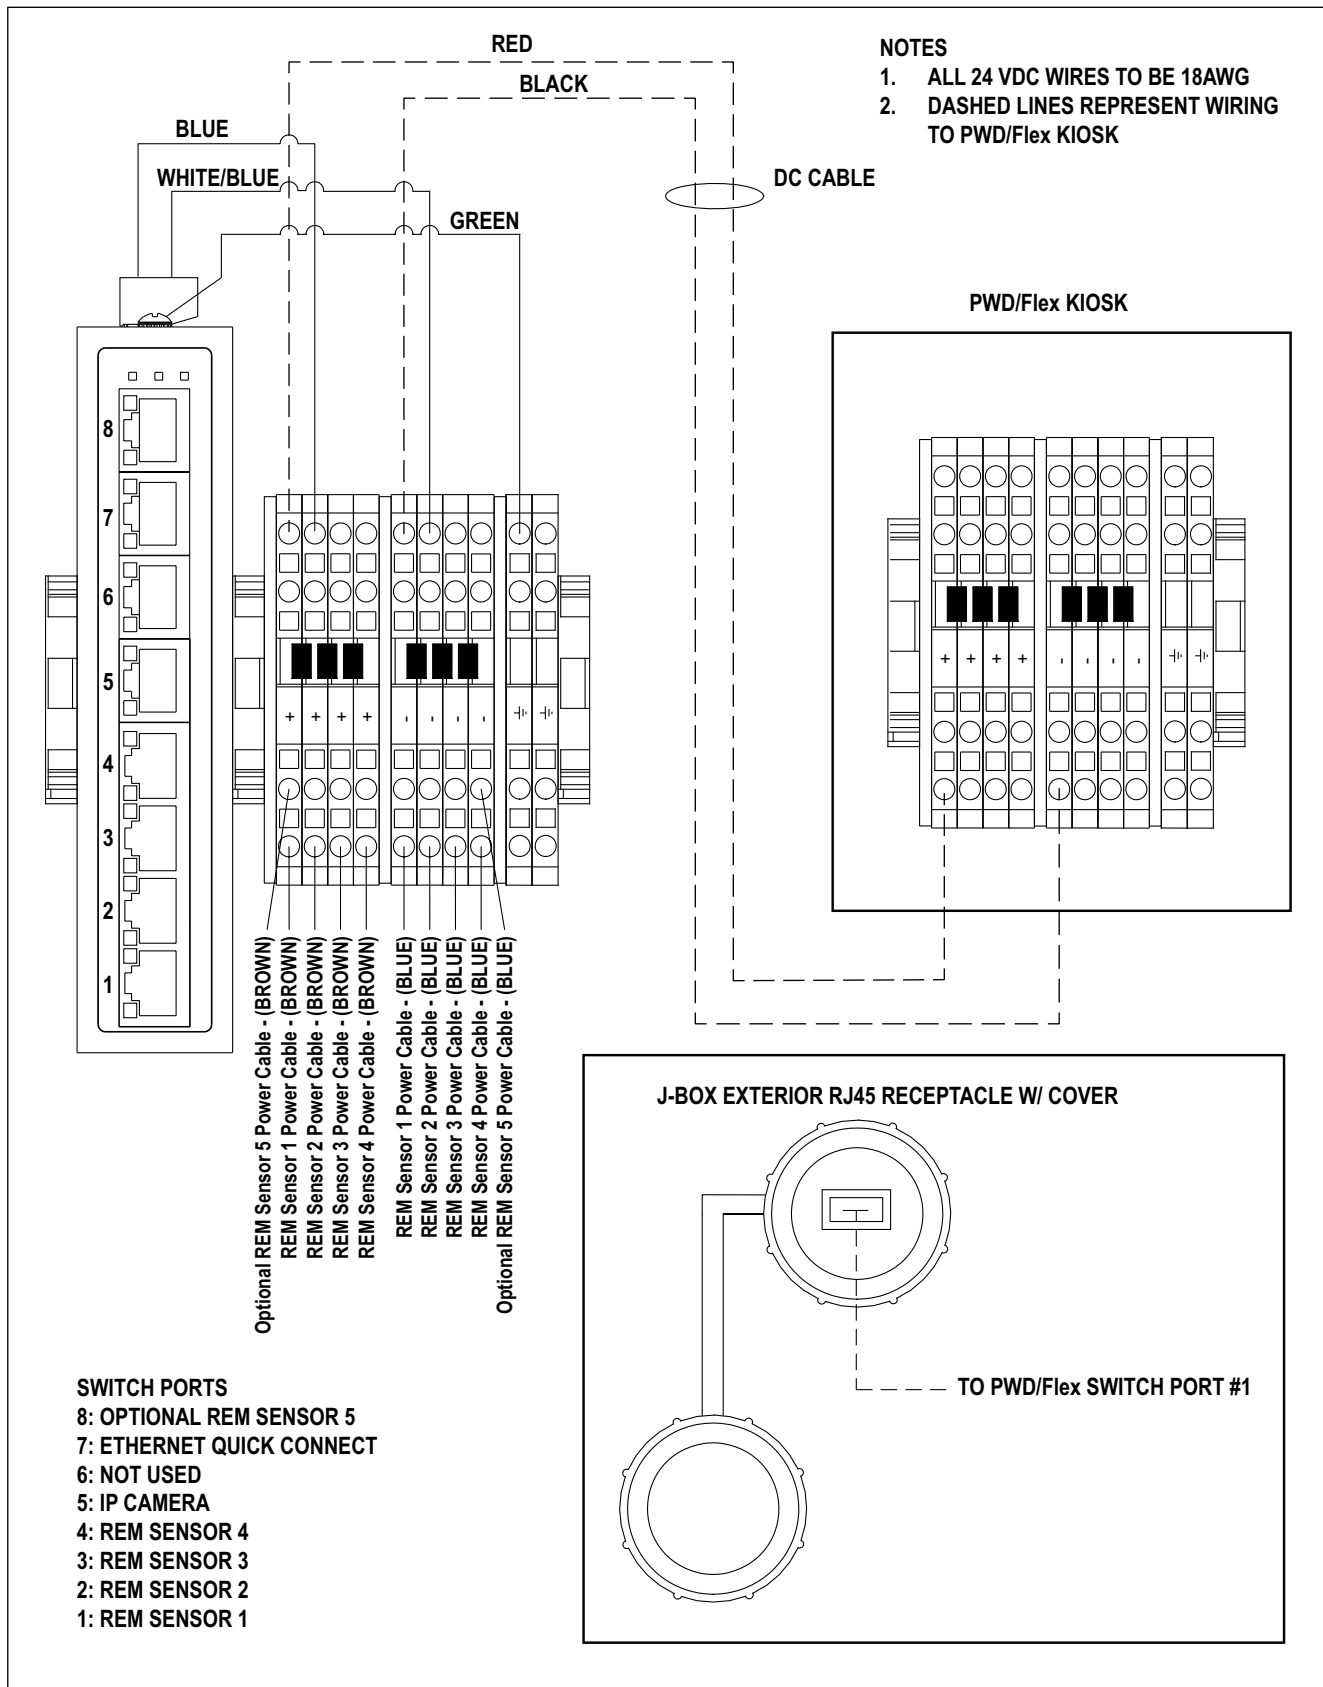

Figure 5-4. J-Box Wiring
7. Connect remote IFM sensor ethernet cables (green) to the j-box ethernet ports (Figure 5-4 on page 26).
9. Wire the remote IFM sensor power cables to the j-box terminal block (Figure 5-4 on page 26).
3. Wire j-box according to Figure 5-4 on page 26.